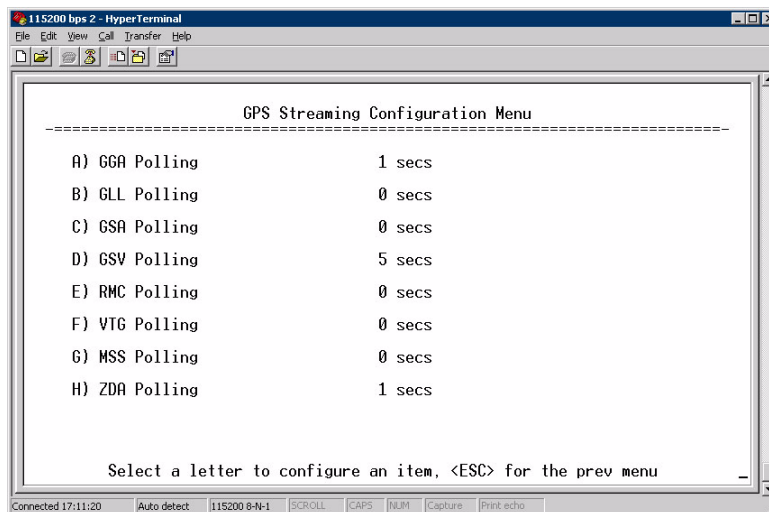

Figure 3-80. GPS Streaming Configuration Menu
- **GPS Streaming Configuration**—A submenu for setting GPS NMEA outputs. (See Figure 3-80 on Page 110.)